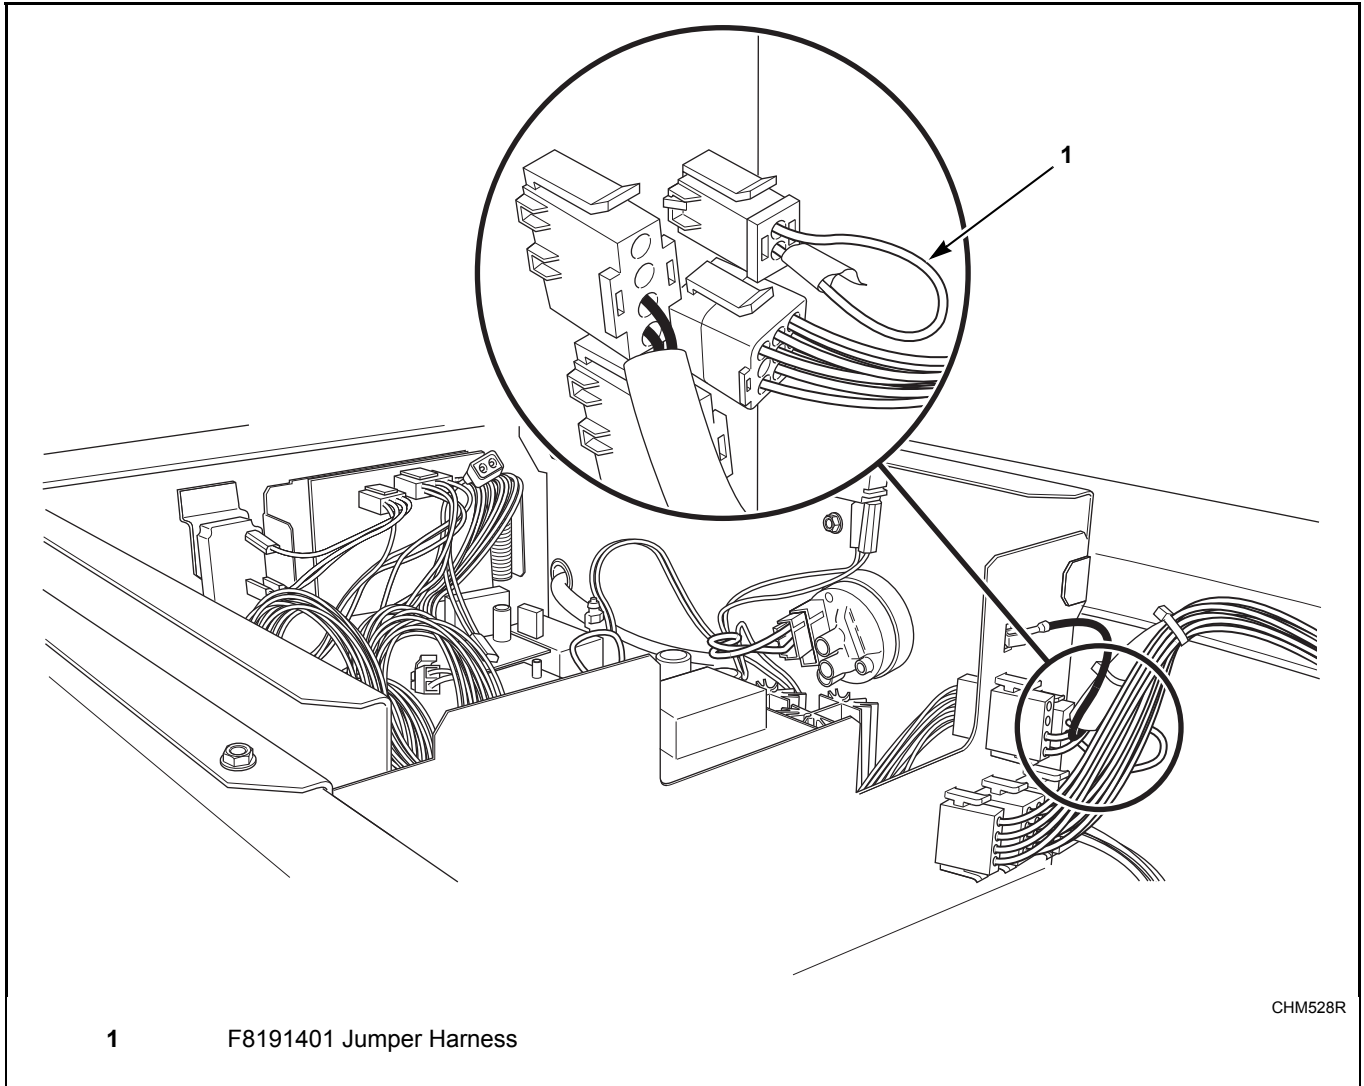

Figure 7
2. Disconnect 2-pin jumper harness, Part No. F8191401, from Frame Balance Switch Harness. Refer to *Figure 7*.
5. Remove jumper harness from control and reconnect to Frame Balance Switch Harness. Refer to *Figure 7*.